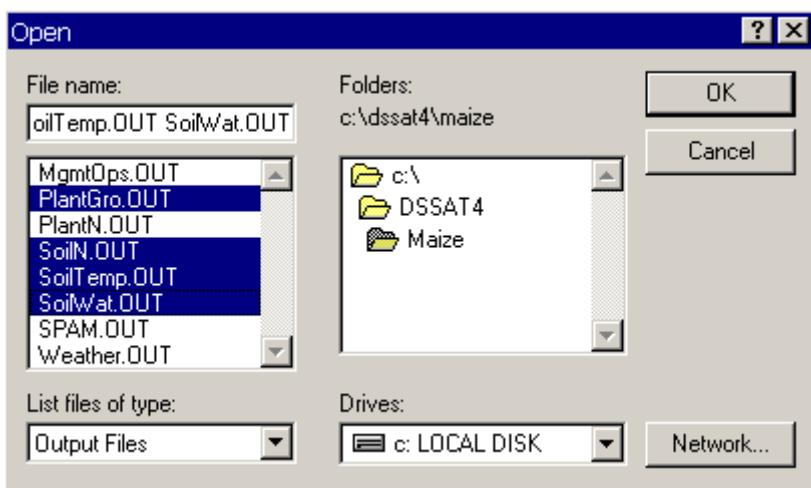

Figure 6. Selection of Output files.
- **Output Files** : all output file that are listed in the file List.out.(Fig.6);
Output file are files that contain simulated results, for example WaterC.out (Water balance); PlantGro.OUT (Growth). The user may select one or more output files for plotting as seen in Figure 6.